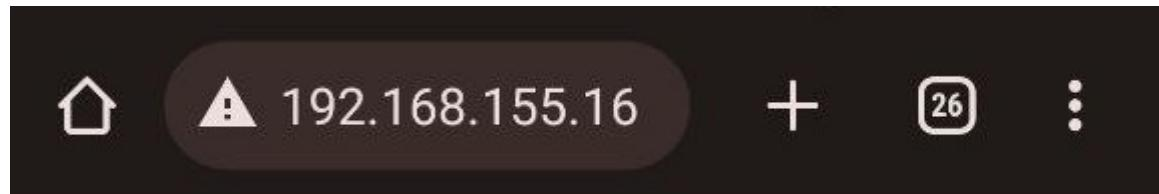

Figure 1.9: Website
1.7.4.8. In the website loaded by the IP address of Vaman-ESP32, the unknown resistance is displayed as shown in Figure 1.9.